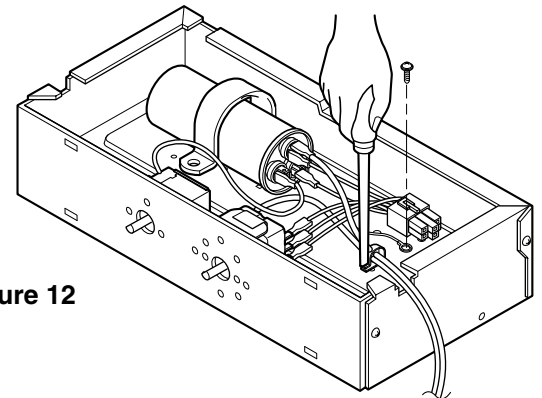

Figure 12
4. Remove a screw which fastens the clip cord. (See Figure 12)